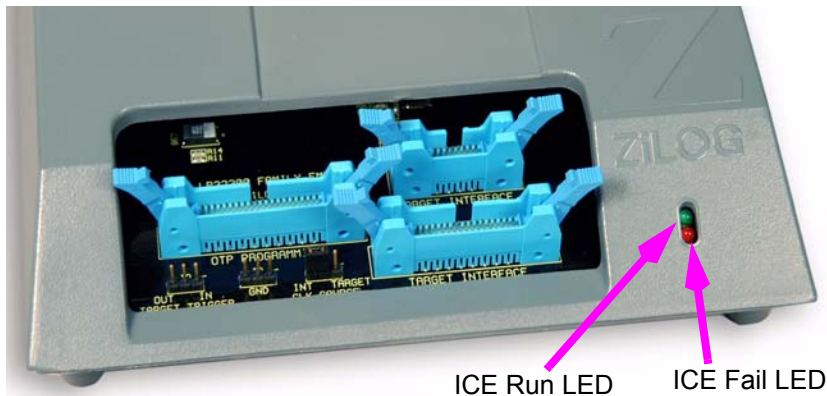

Figure 6. Crimzon ICE Front-Panel
3. Connect a 5VDC power supply to the Crimzon ICE. The 3.3VDC and 1.8VDC power LEDs should illuminate (see Figure 5). If either power LED fails to illuminate, or if the ICE Fail LED either blinks continuously or fails to extinguish after 15 seconds (see Figure 6), there is a problem with the unit. Contact ZiLOG support at <http://www.zilog.com> for a replacement unit.